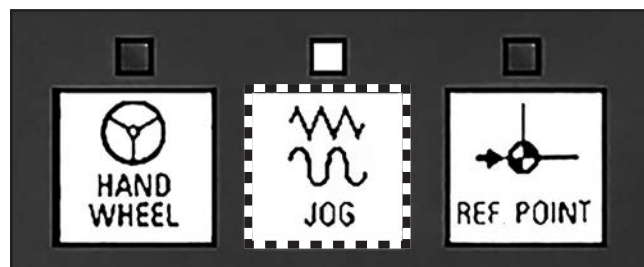

Figure 117. JOG key location on MCP.
3. On MCP, press JOG key to enter JOG mode (see **Figure 117**).